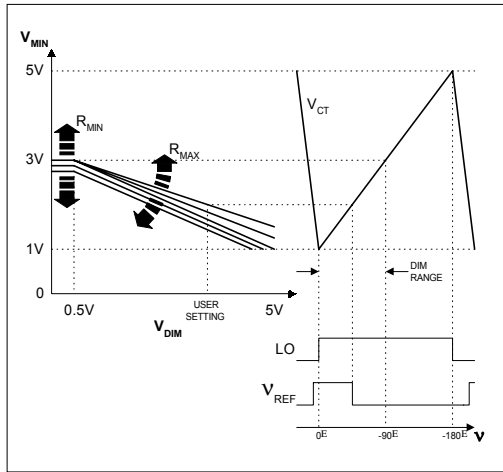

Figure 14, Dimming interface
The IR21592/IR21593 includes a dimming interface for analog lamp power control. The DIM pin input requires a voltage in the range of 0.5 to 5VDC, with 5V corresponding to minimum phase shift (maximum lamp power). The output of the dim interface is the voltage on pin MIN, which is compared with the internal timing capacitor (CT) voltage to produce a frequency-independent digital reference phase (Figure 14).